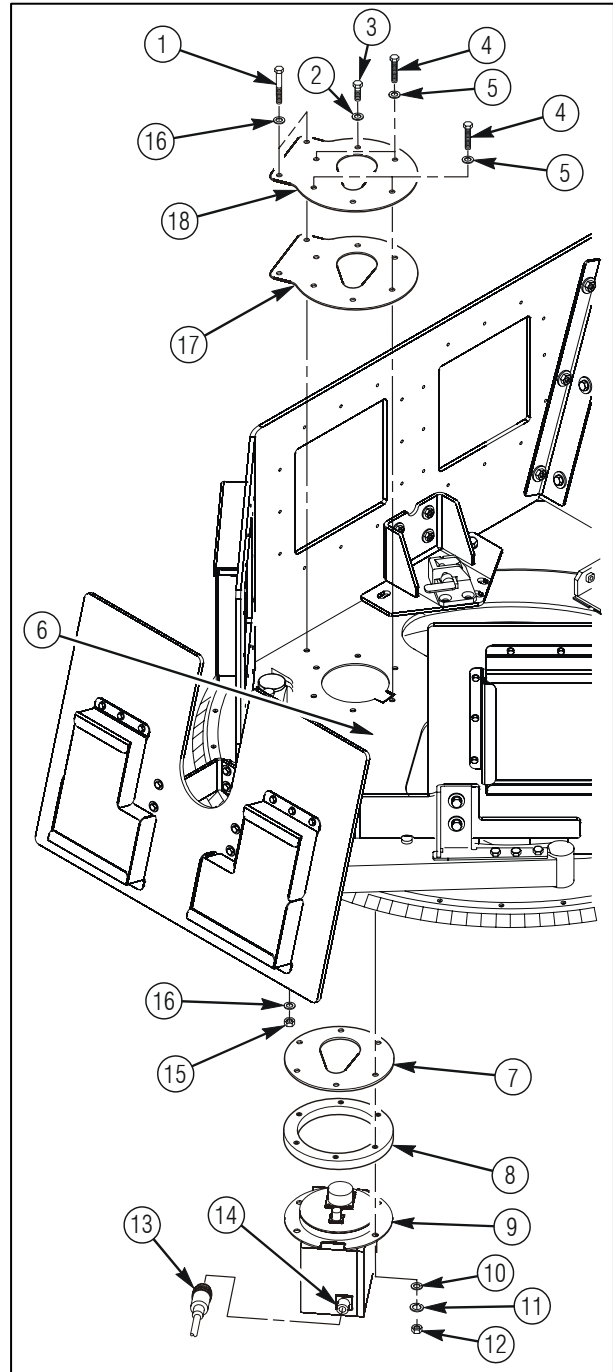

Figure 34
1. Install 6432502-01M1 or 6432502-200M1 night vision cover plate (18) and 6432878-01M1 night vision cover plate seal (17) on turret armor (6) and secure with two existing capscrews (1), four existing washers (16), 4397064-006 locknut (15) and 4397064-005 locknut as shown in figure 34. Do not tighten locknuts (15) at this time.
2. Apply sealing compound to threads of two existing capscrews (3). Refer to figure 34.
3. Install existing nut ring (8) and 6435123-01M1 control box seal (7) under turret armor (6). Ensure all mounting holes in nut ring (8) align with mounting holes in night vision cover plate (18), and cutout in control box seal (7) is aligned with cutout in night vision cover plate (18). Secure with two existing capscrews (3) and existing washers (2) as shown in figure 34. Do not tighten capscrews (3) at this time.
4. Install four 6432884-01M1 tap bolts (4) and four existing washers (5) as shown in figure 34. Tighten two capscrews (3) to 37 lb-ft (50 N·m), two locknuts (15) to 37 lb-ft (50 N·m), and four tap bolts (4) to 37 lb-ft (50 N·m).
5. Install 6432530-01M1 system control box assembly (9) on four tap bolts (4) and secure with four 4397005-014 washers (10), 4397004-008 lockwashers (11), and 6430529-06M1 nuts (12) as shown in figure 34. Tighten nuts (12) to 37 lb-ft (50 N·m).
6. Connect motor electrical connector (13) to electrical connector (14) on side of system control box assembly (9) as shown in figure 34.